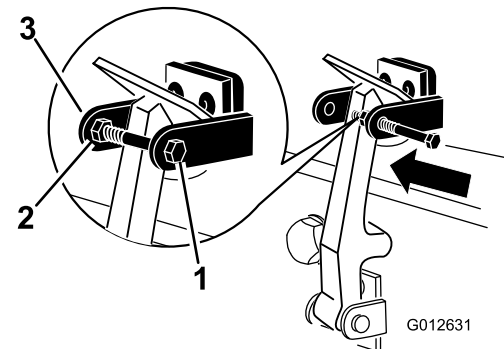

Figure 15
7. Screw the bolt into the other arm of hood lock bracket to lock the latch in position (Figure 15). Tighten bolt securely but do not tighten nut.